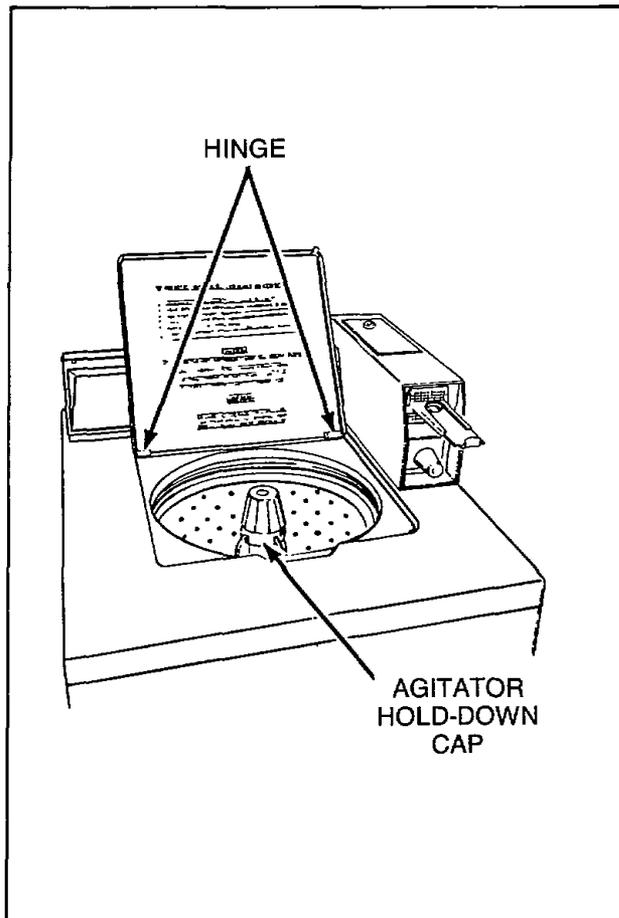

Figure 10
10. LOADING DOOR (Refer to Figure 10)
- Remove agitator hold-down cap, or load level indicator, and lift agitator out of washtub, Figure 10.